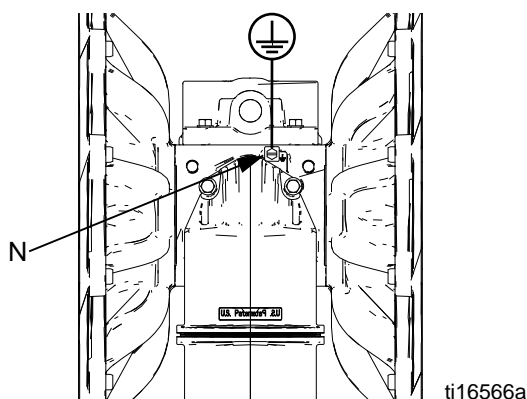

FIG. 3. Ground screw and wire
- N Ground screw (Aluminum and stainless steel only, see FIG. 3, page 10)
Pump: See FIG. 3. Loosen the ground screw (N). Insert one end of a 12 ga. minimum ground wire behind the ground screw and tighten the screw securely. Connect the clamp end of the ground wire to a true earth ground. A ground wire and clamp, Part 238909, is available from Graco.